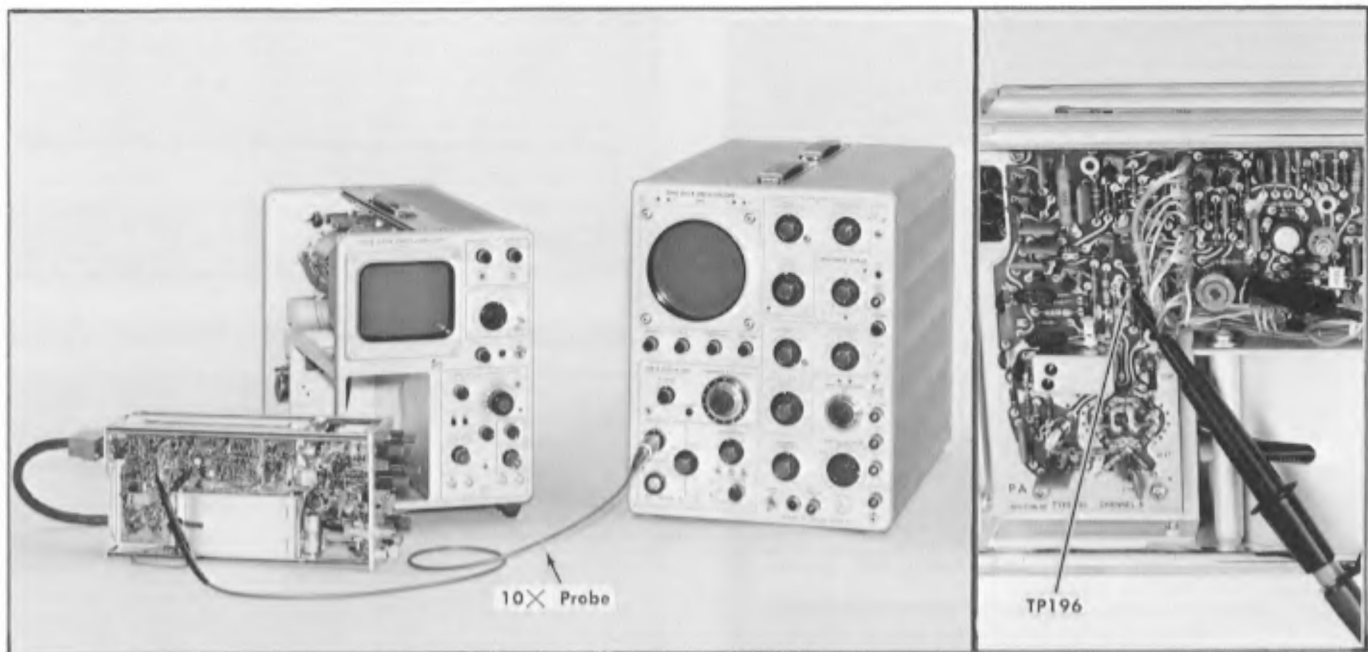

Fig. 8-7. Test setup for Step 4.
a. Make the connections and control settings listed under Fig. 8-7. The test oscilloscope deflection factor is 1 volt/cm.
c. Move the 10× Probe ground clip to a convenient point near TP196, as shown in Fig. 8-7. Attach the probe tip to TP196. The test oscilloscope trace will move upward from its zero signal position. Use the Type W Position control and place the trace two major divisions above the graticule centerline.